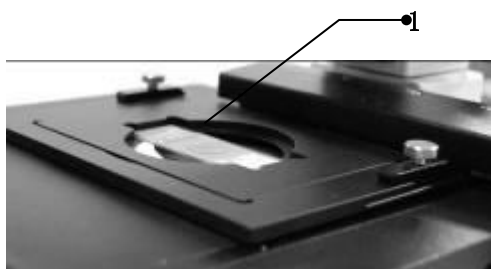

Figure 06
1) To observe the specimen on the slide, put the slide on the dish board directly. To observe culture tissue in the dish, change the board according to the size of the dish.( Refer to the specification figure) See Figure 06.